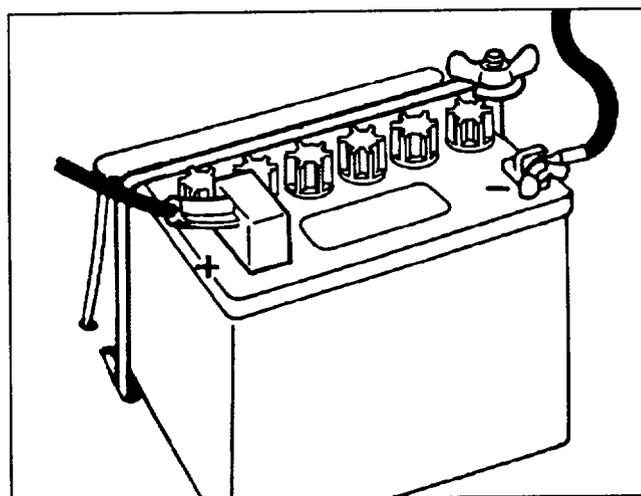

Figure 5
9. Install the battery with the terminal posts toward the rear of the machine and vent tube on left side of battery, thru hole in frame (Fig. 5).
11. Install the positive cable (rubber boot over end) to the positive (+) terminal and the negative cable (black) to the negative (-) terminal of the battery and 1. secure with capscrews and wing nuts. Slide the rubber boot over the positive terminal to prevent possible short-out from occurring (Fig. 5).